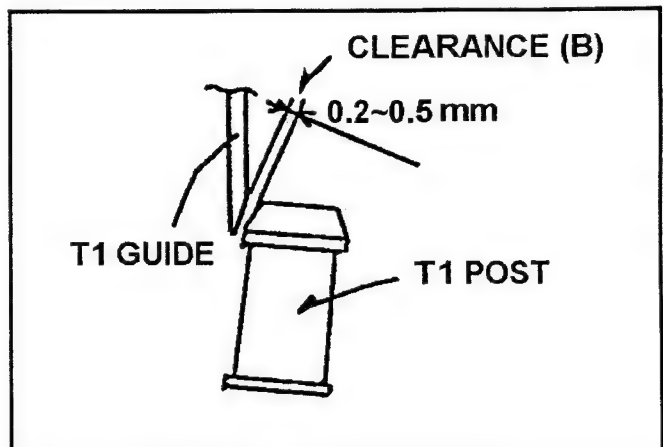

Fig. 6-8-2 Adjust of T1 Guide
1. Observe the clearance (B) between T1 Guide and T1 post as shown in Figure 6-8-2. And make sure that it is within 0.2 to 0.5mm.
2. If not, loosen the 2 screws (A) and adjust the position of T1 Guide by moving arrow direction (G ⇄ G) so that the clearance (B) is within specification. And tighten the 2 screws (A).